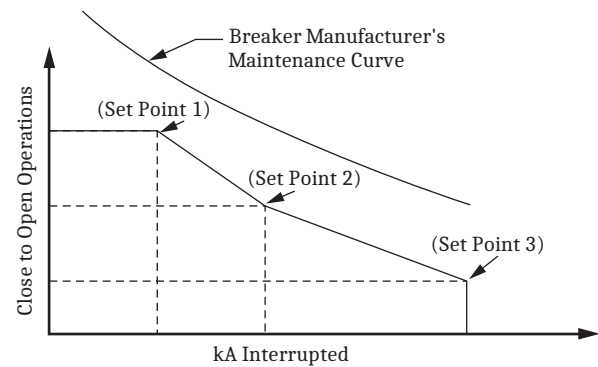

Figure 30 Breaker Contact Wear Curve and Settings
- ▶ Every time the breaker trips, the relay integrates interrupted current. When the result of this integration exceeds the threshold set by the breaker wear curve (*Figure 30*), the relay can alarm via an output contact or the optional front-panel display. With this information, you can schedule breaker maintenance in a timely, economical fashion.